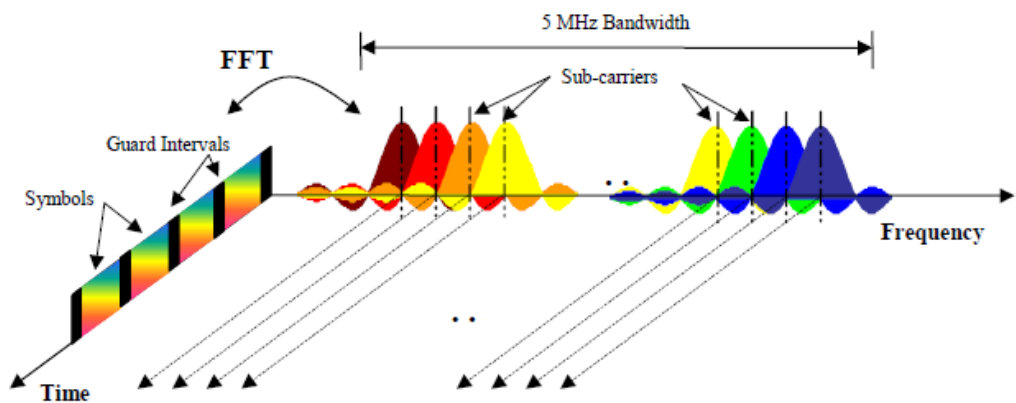

Fig. 3-1: Frequency-Time Representation of an OFDM Signal (3GPP TR 25.892 [2])
The following figure 3-1 shows a representation of an OFDM signal (3GPP TR 25.892 [2]). In this figure, a signal with 5 MHz bandwidth is shown, but the principle is of course the same for the other E-UTRA bandwidths. Data symbols are independently modulated and transmitted over a high number of closely spaced orthogonal subcarriers. In E-UTRA, downlink modulation schemes QPSK, 16QAM, and 64QAM are available.
data, each one independently modulated, a waveform composed of  $N$  orthogonal sub-carriers is obtained, with each subcarrier having the shape of a frequency sinc function (see figure 3-1).
One downlink slot consists of  $N_{\text{symbol}}^{\text{DL}}$  OFDM symbols. To each symbol, a cyclic prefix (CP) is appended as guard time, compare figure 3-1.  $N_{\text{symbol}}^{\text{DL}}$  depends on the cyclic prefix length. The generic frame structure with normal cyclic prefix length contains  $N_{\text{symbol}}^{\text{DL}} = 7$  symbols. This translates into a cyclic prefix length of  $T_{\text{CP}} \approx 5.2 \mu\text{s}$  for the first symbol and  $T_{\text{CP}} \approx 4.7 \mu\text{s}$  for the remaining 6 symbols. Additionally, an extended cyclic prefix is defined in order to cover large cell scenarios with higher delay spread and MBMS transmission. The generic frame structure with extended cyclic prefix of  $T_{\text{CP-E}} \approx 16.7 \mu\text{s}$  contains  $N_{\text{symbol}}^{\text{DL}} = 6$  OFDM symbols (subcarrier spacing 15 kHz). The generic frame structure with extended cyclic prefix of  $T_{\text{CP-E}} \approx 33.3 \mu\text{s}$  contains  $N_{\text{symbol}}^{\text{DL}} = 3$  symbols (subcarrier spacing 7.5 kHz). The table 3-1 gives an overview of the different parameters for the generic frame structure.